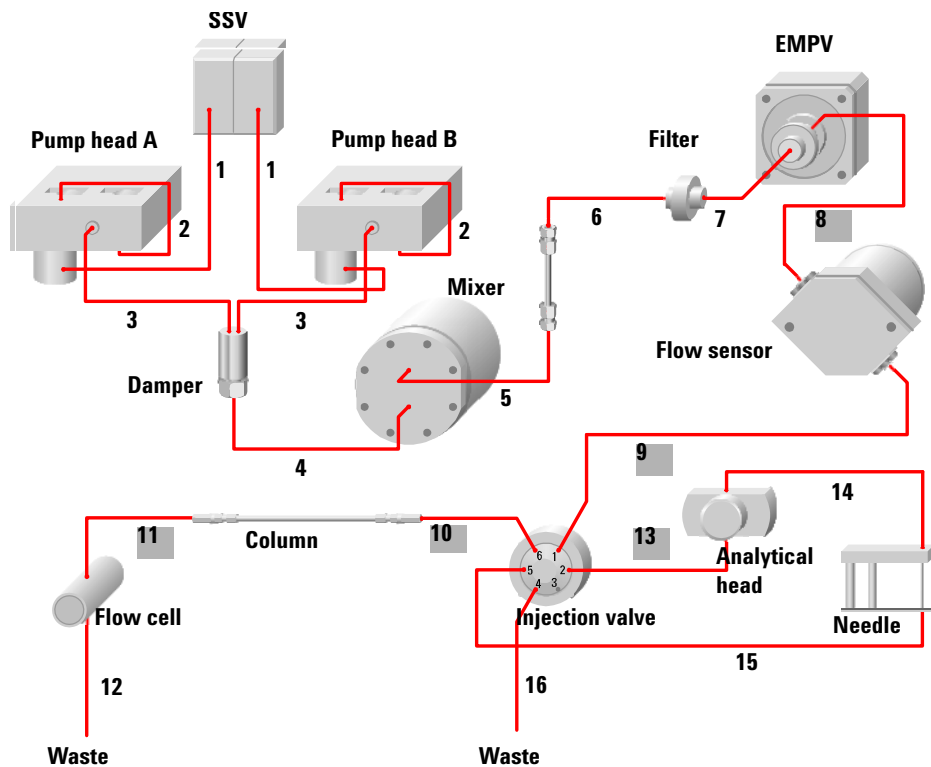

Figure 32 Capillary pump flow diagram
The extended flow range kit described in Table 57 lets you adapt your capillary pump to enable it to work with flows up to 100  $\mu\text{l}/\text{min}$ . In order to decrease the system pressure when you increase the flow until 100  $\mu\text{l}/\text{min}$  some capillaries must be changed. These capillaries, (8, 9, 10, 11, 13) are shaded in Figure 32 on page 145.
- 1 Using the 4 mm / 1/4 - 5/16 inch open wrenches disconnect the capillaries 8, 9, 10, 11 and 13. Refer to Figure 32 on page 145 to identify their location.
- 4 Using the 4 mm / 1/4 - 5/16 inch open wrenches connect the capillaries 8, 9, 10, 11 and 13 (refer to Figure 32 on page 145) to identify their location